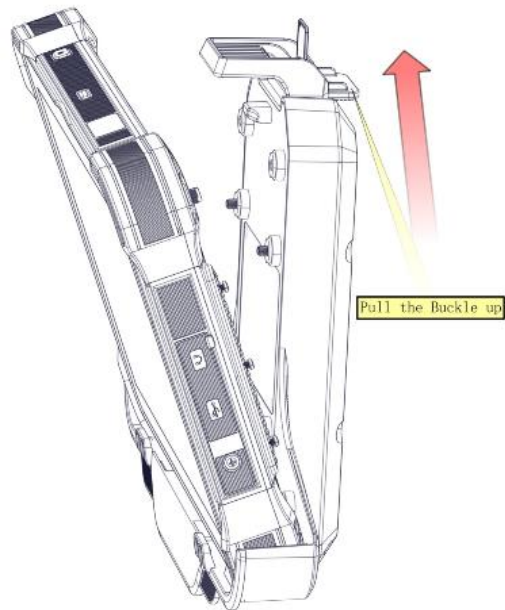

Fig. 4-3
3.the buckle up as the Fig.4-3 shown.